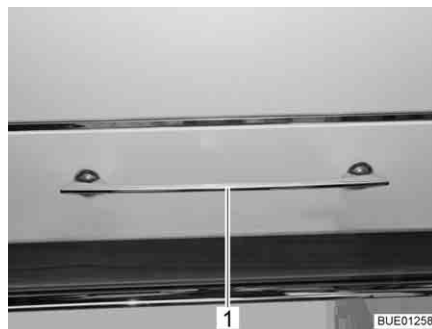

Fig. 59 Furniture flap with release handle
- Press the release handle (Fig. 59,1) down and keep it pressed.